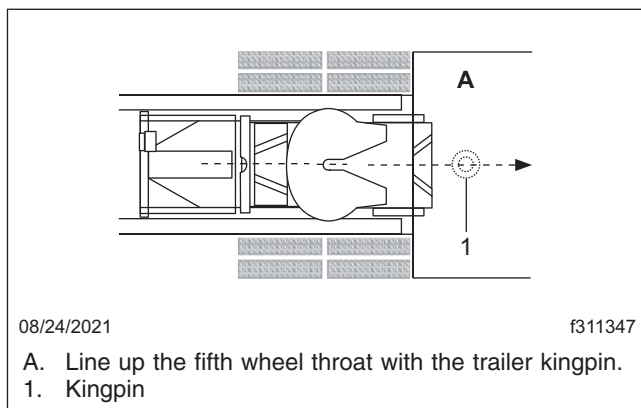

Fig. 17.4, Positioning the Tractor
6. Position the tractor so the kingpin is in a position to enter the throat of the fifth wheel as shown in Fig. 17.4.
in Fig. 17.4. The kingpin should be in a position to enter the throat of the locking mechanism.